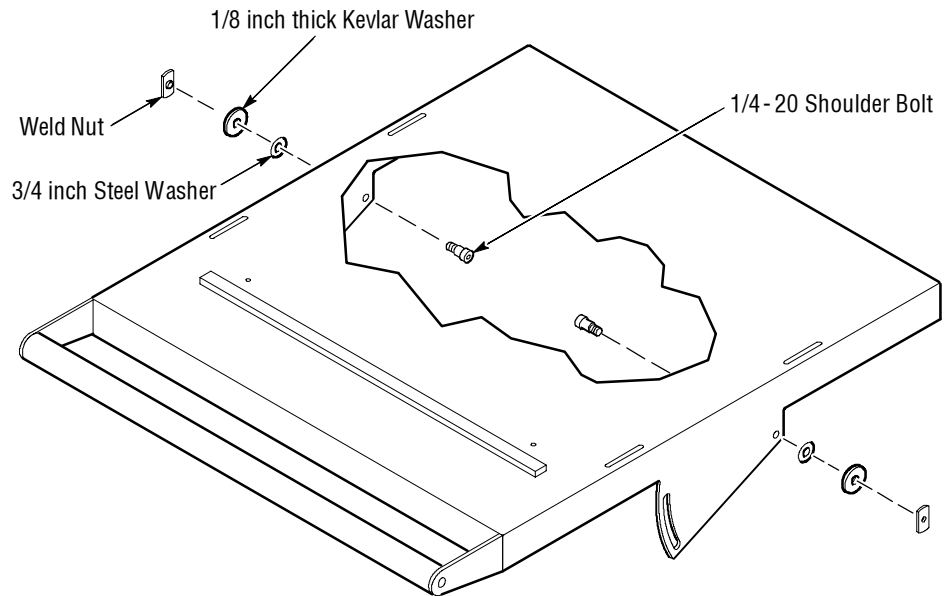

Figure 12: Preparing the Tilt Shelf with Handle
3. Prepare the tilt shelf with handle as shown in Figure 12, by installing a shoulder bolt, a steel washer, a Kevlar washer, and a weld nut in each of the two back holes of the tilt shelf. The front holes are curved slots; use the back holes opposite them. Place the washer on the outside of the shelf, between the shelf and the leg assembly. Leave each screw assembly loose; do not screw the weld nut onto the shoulder bolt more than one full turn.